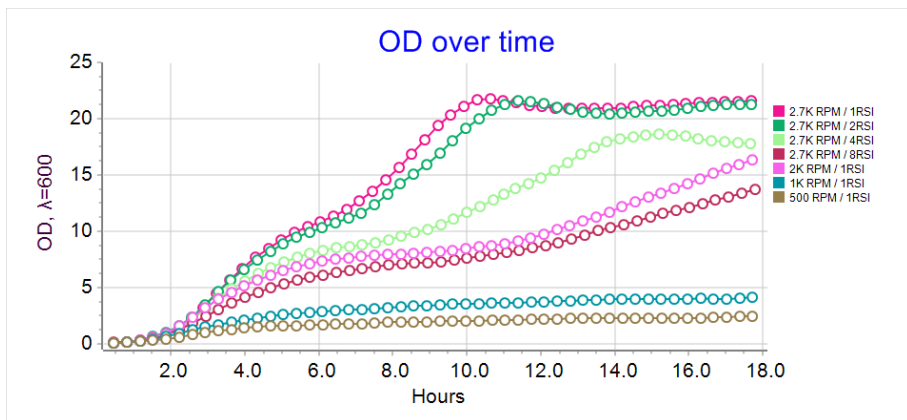
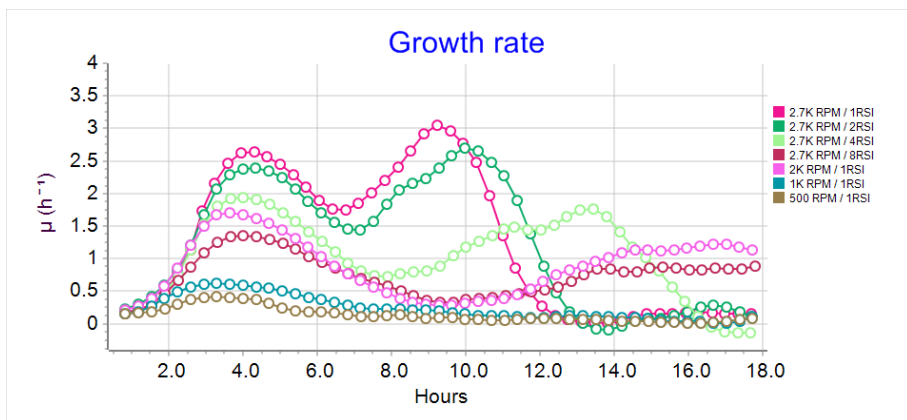

Figure 5. Influence of Interval of Reverse Spinning and RPM on the Growth kinetics ($\Delta OD_{\lambda=600nm}/\Delta t$) vs Time of fermentation (h).
Figure 6. Influence of Interval of Reverse Spinning and RPM on the Growth kinetics ($\Delta OD_{\lambda=600nm}/\Delta t$) vs Time of fermentation (h).
It is known that aeration affects the growth and growth rate of aerobic microorganisms. The RSI and RPM affect the rate of oxygen uptake in the bioreactor. Results obtained in fig. 5 and fig. 6 indicate that the maximum rate of cell division is detected at RSI of 1 s^{-1} at a speed of 2700 rpm. The increase of pause between reverse spins reduces cell growth rate and OD yield, reaching ~44% of the maximum value (RSI 1 s^{-1}), when RSI is 8 s^{-1} .
8.2.1 Legend of experiment (fig. 5.): Multi-channel bioreactor RTS-8 was used with 850 nm laser, volume of Terrific Broth (TB) in 50 ml Falcon tube was 10 ml, RSI 1, 2, 4, 8 s^{-1} , MI 10 min, RPM 2000, temperature 37°C , TPP Bioreactor vessels.